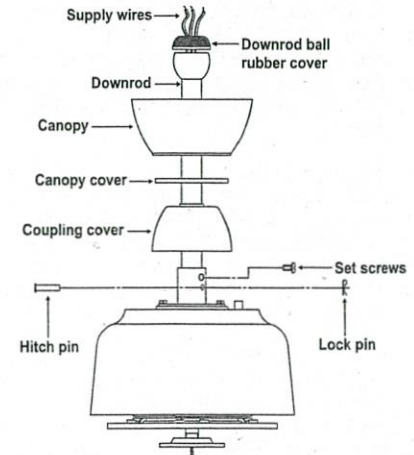

Figure 7
Step 5. Remove the lock pin, hitch pin and set screws from the top of the motor assembly. Do not discard. (Fig. 7)
Step 6. Route wires exiting from the top of the fan motor through the coupling cover, canopy cover, canopy and then through the ball/downrod. (Fig. 7)
Step 7. Align the holes at the bottom of the downrod with the holes in the collar on top of the motor housing (Fig. 7). Carefully insert the hitch pin through the holes in the collar and downrod. Be careful not to jam the pin against the wiring inside the downrod. Insert the lock pin through the hole near the end of the hitch pin until it snaps into its locked position.
Step 8. Tighten the two set screws on top of the fan motor firmly. (Fig. 7)